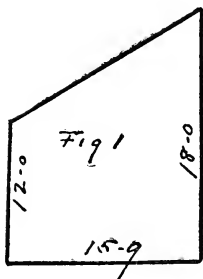

FIGURE 1.
If the floor has the form of a trapezoid, i. e., has only one pair of opposite sides parallel, as in Fig. 1, and the difference in length of the parallel sides is slight, it can be estimated by regarding it as a rectangle. But, if the difference is great, as for example, in a room 15' 9" wide, one side of which measures 18' 0" and the opposite side 12' 0", it would make a difference of about six yards and would have to be considered if figuring against others.
*To find the drop in a trapezoid, Fig. 1*
*Ex. 1.* What will be the difference in length of breadths required for a floor like Fig. 1?
*Ex. 2.* How many yards  $\frac{3}{4}$  plain carpet 14-inch pattern is required to cover a floor like Fig. 1, with and without allowing for waste in matching?
*Ex. 3.* Find how many yards is required to cover a floor like Fig. 1 by this method.